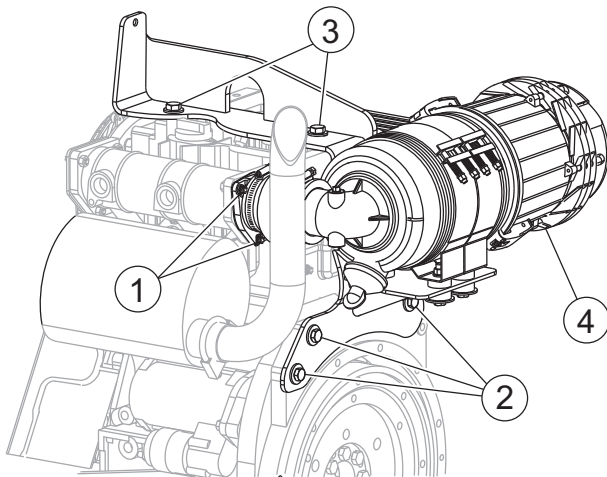

Figure 41. Air Cleaner Removal
1. Disconnect the air intake hose. Remove the three nuts and torx screws (Figure 41, Item 1).
2. Remove 3 bolts that mount the air filter bracket to the engine (item 2) and the two bolts holding the lifting bale (Item 3).